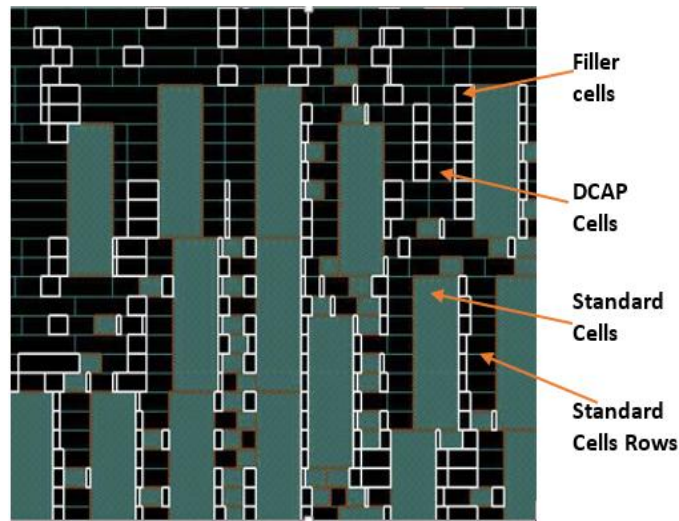

fig2: Filler cells, Decap cells
- These are typically poly gate transistors where source and drain are connected to the ground rails and the gate is connected to the power rails. **(fig2)**